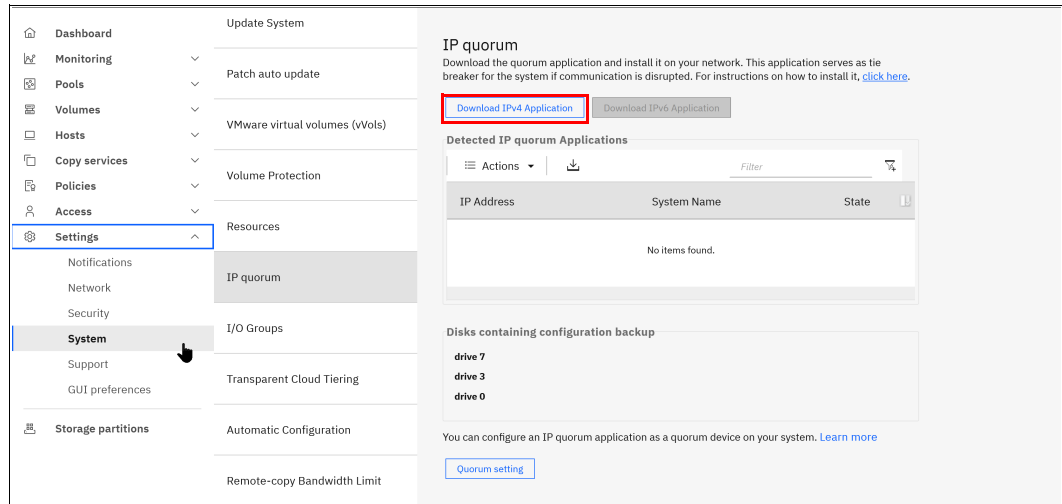

Figure 2-54 Download IPv4 quorum button
1. Select **Settings** → **System** → **IP Quorum** to download the IP quorum application, as shown in Figure 2-54. If you use IPv6 for management IP addresses, the Download IPv6 Application button is available and the IPv4 option is disabled. In our example, we select **Download IPv4 Application**.